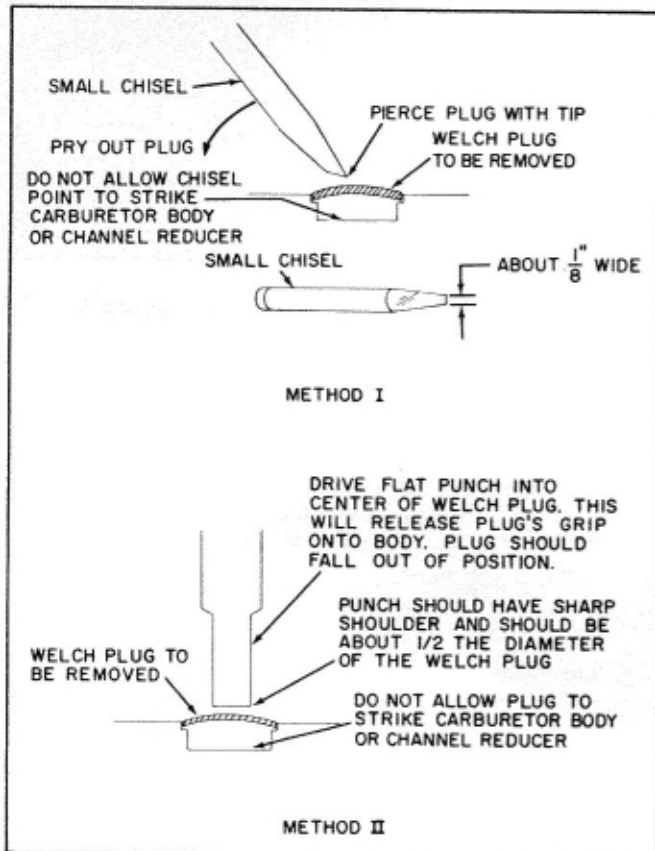

Figure 13 Welch Plug Removal
- Sharpen small chisel to sharp wedge as shown in Figure 13.